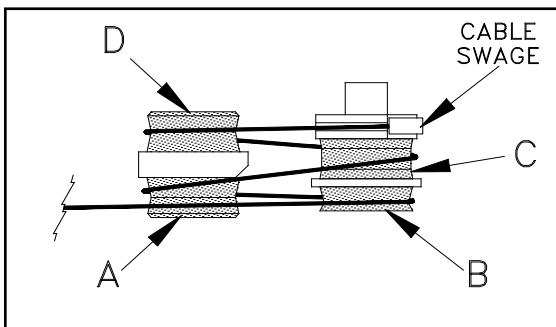

Figure 19
9. Refer to (Figure 19) while wrapping cable around the pulleys. The cable should protrude from the AutoStop tube at the lower corner of the tongue flat side facing you. From here, route the cable in front of pulley "A" and counterclockwise around pulley "B". Continue on the back side back to pulley "A" and go around it counterclockwise also.